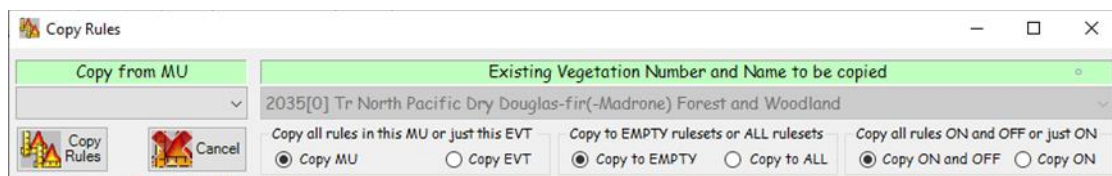

Figure 7-24. Copy Rules dialog box.
- To copy a rule, click the **Copy Rule** icon on the **Fuel Rules** page. The following dialog box (Figure 7-24) will open.
- Use the drop-down menu at the top left of the **Copy Rules** dialog box to select a MU to copy from (Figure 7-24).